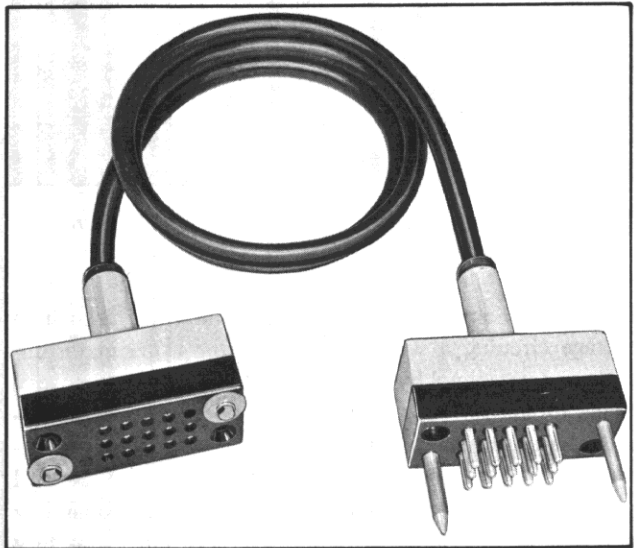

Fig. 37 Test Cable (376447)
1.31.5 A TEST CABLE (Fig. 37) is furnished with indoor or outdoor installations for electrically operating the breaker while out of its housing. One end is a plug that connects into the secondary disconnect contacts in the breaker module while the other end is a socket that engages the secondary disconnect contacts on the breaker itself.